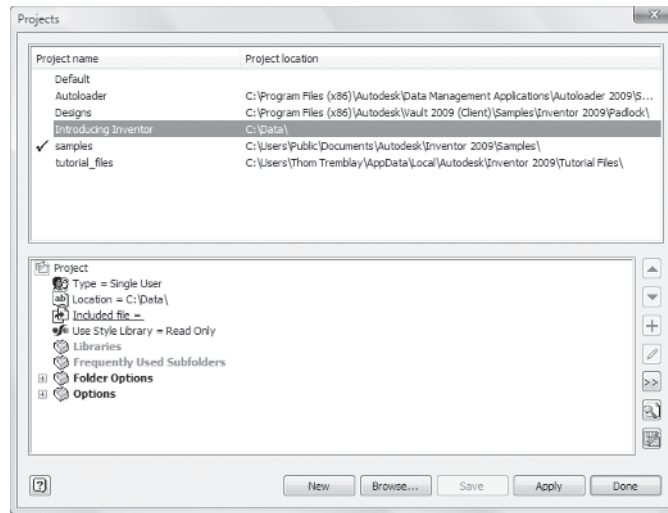

Figure 1.24
9. When you return to the Projects dialog box (Figure 1.24), your new project file will not automatically become the active project file. Do *not* change the active project file at this time. When you do wish to make your new project active, you must highlight it and click the Apply button or double-click on the filename in the Select Project pane.